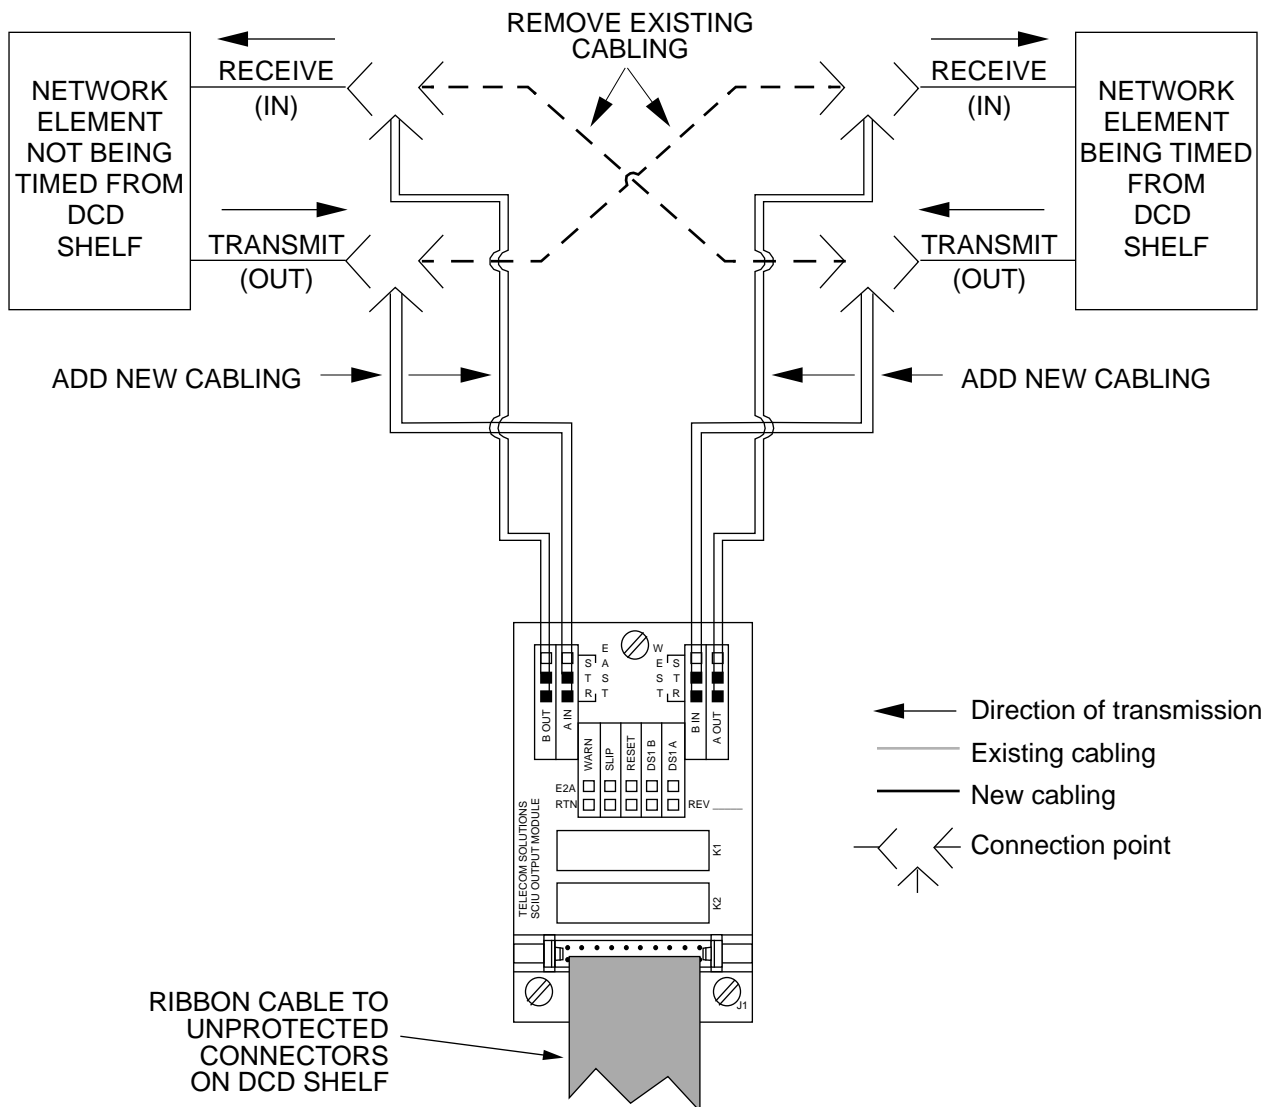

Figure 29. SCIU Cutover Without Jacks (Out-of-Service)
3.07 If standard digital signal level access jack sets, such as DSX-1 jacks, **are not** cabled to the SCIU wire-wrap module or panel, the following out-of-service cutover procedure must be used. Consult the local company Installation Job Specifications to ensure that the network element to be retimed from the DCD shelf clock (BITS) will be connected to the SCIU wire-wrap module or panel WEST A OUT terminals (see Figure 17). Refer to Figure 29 for the following procedure: